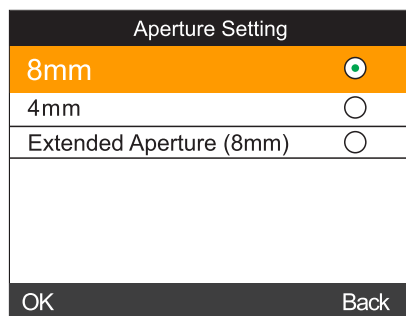

Figure 43 Aperture Setting
- c) Select “Settings” - “Aperture Setting” to enter an interface shown in Figure 43. This interface is used for selecting measuring aperture. After changing the aperture, be sure to select the corresponding aperture in “ Aperture Setting ”, or it will cause the inaccuracy of the measured data. After changing the aperture, you need to re-perform white and black calibration, or it will also cause the inaccuracy of the measured data.